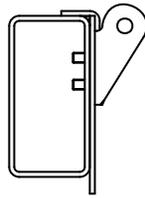

Figure 18-1
- 1) **Figures 18-1 & 18-2.** Align bracket with marked bow location and place on top of rail.